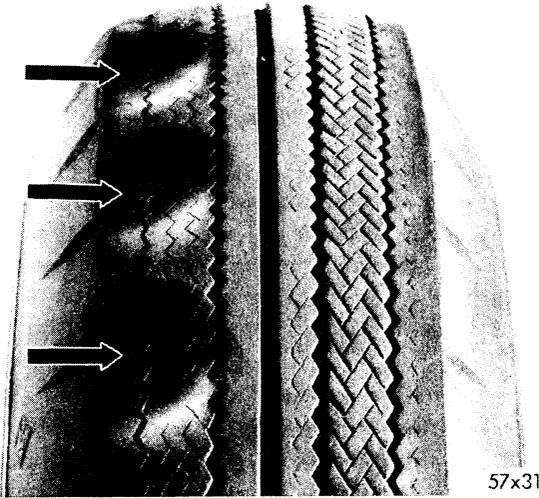

Fig. 14—Spotty Wear
a. Spotty Wear (Fig. 14) usually becomes evident on front tires when tires are not rotated every 3,000 miles.